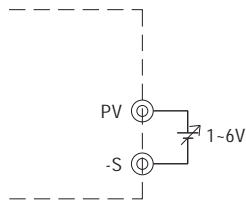

Fig. 3.1 Add on 1-6V external voltage
- (1) Connecting an external DC source between PV and-S on CN1 or CN2 that is shown in Fig. 3.1.